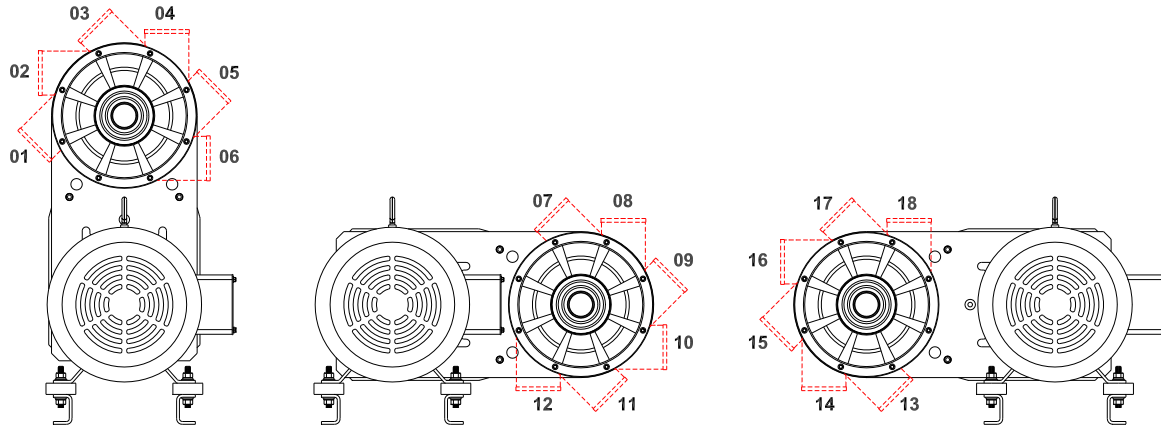

Figure 11 - Blower Rotations
5. If a ¾ inch belt gap was not achieved, use a 9/16 inch deep socket (¾ inch deep socket for 10hp & 15hp) to loosen the bracket mounting screws behind the motor pulley and slide the bracket. (See Figure 9 and Figure 11)
The blower head position was adjusted at the factory to the application specifications. Therefore, it should not be necessary to change the position of the blower head outlet unless the application specifications have changed or the unit is relocated. See Figure 11 for blower head rotation options. Use the following procedure to modify or adjust the blower head rotation.